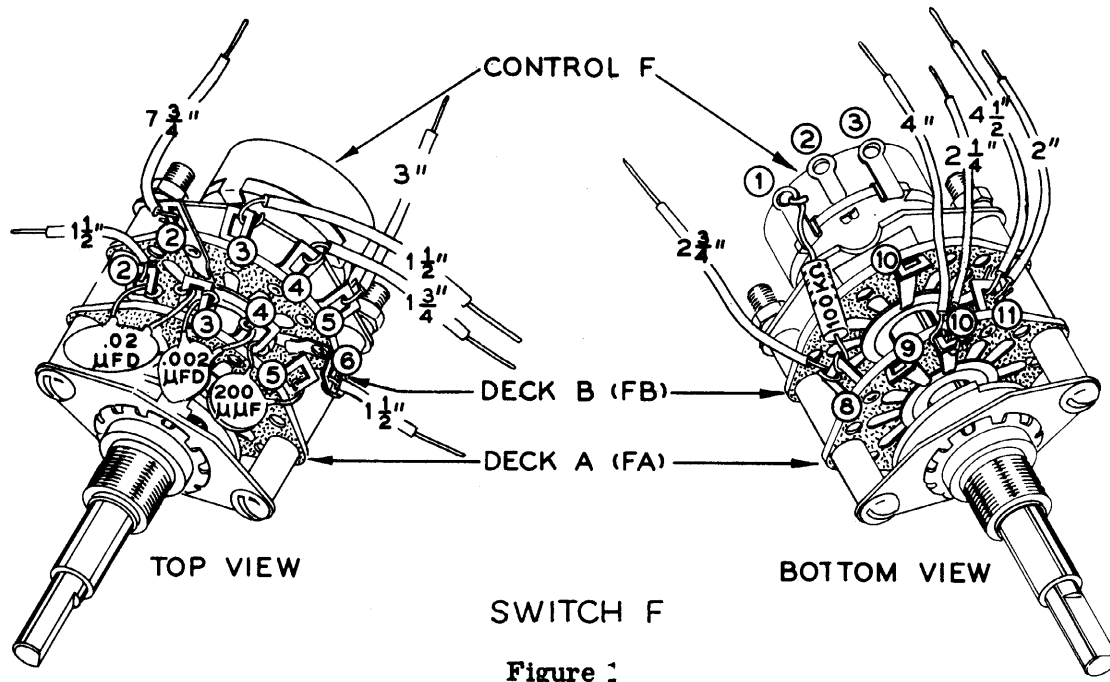

Figure 1
Refer to Figure 1 for the following steps.
- ( ) C10. Connect a 200  $\mu\text{f}$  capacitor between lugs FA4 (NS) and FA5 (S-1). Keep the body of the capacitor flat against the switch as shown in Figure 1.
- ( ) C9. Connect a .002  $\mu\text{f}$  capacitor between lugs FA4 (S-2) and FA3 (NS). Keep this capacitor close to the switch.
- ( ) C8. Connect a .02  $\mu\text{f}$  capacitor between lugs FA3 (S-2) and FA2 (NS). Again, keep the capacitor close to the switch.